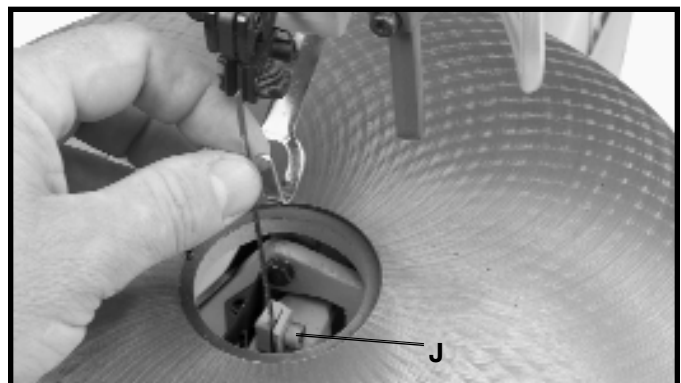

Fig. 26
7. Tighten screw (J) Fig. 26, in lower blade guard assembly.